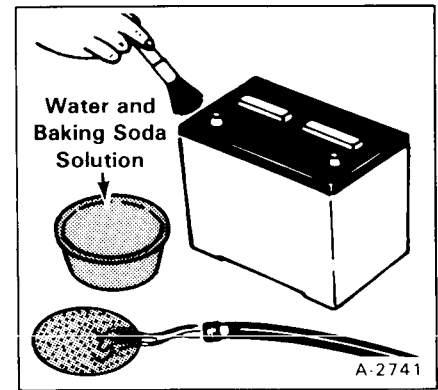

Fig. 63 Cleaning the Battery
1. Check that the battery cables are clean and tight and the water level of the batteries. Remove any acid or corrosion from the battery and cables with a sodium bicarbonate and water solution (Fig. 63). Cover the terminals with grease to prevent corrosion.